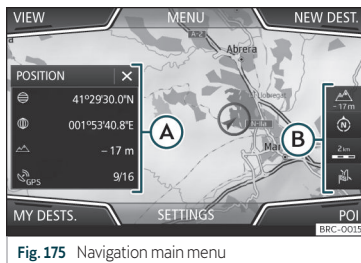

Fig. 175 Navigation main menu
- VIEW**: To modify or activate or deactivate the split screen and show POI >>> Fig. 175 **A** >>> page 198.